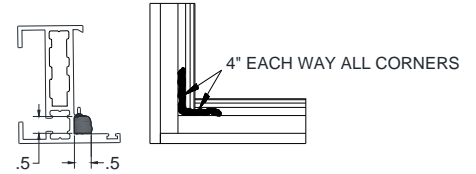

Figure 11:
- Apply a 1/2" x 1/2" x 4" bead of compatible sealant from each corner on inner flange of panel (Figure 11).